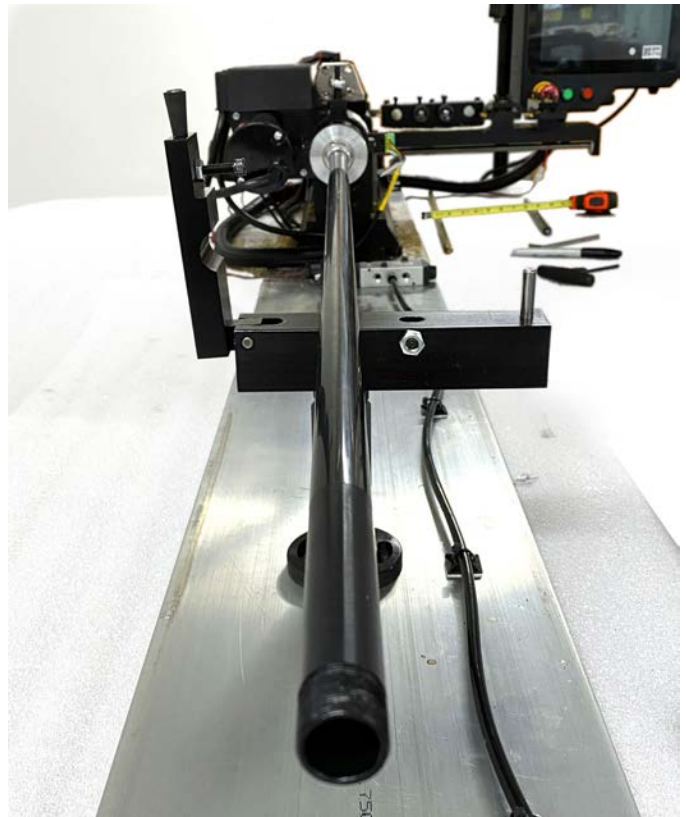

FIGURE 17
J. Slide the assembly forward on the feeder tube (see Figure 17).